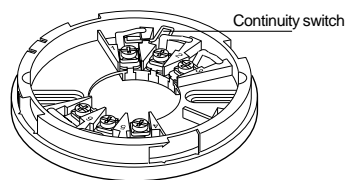

Figure 5. Continuity switch
3. Dress the wiring neatly and verify that the continuity switch (jumper wire) is touching both terminal 1 and terminal 2. Securely fasten base with appropriate hardware (see Figure 5).